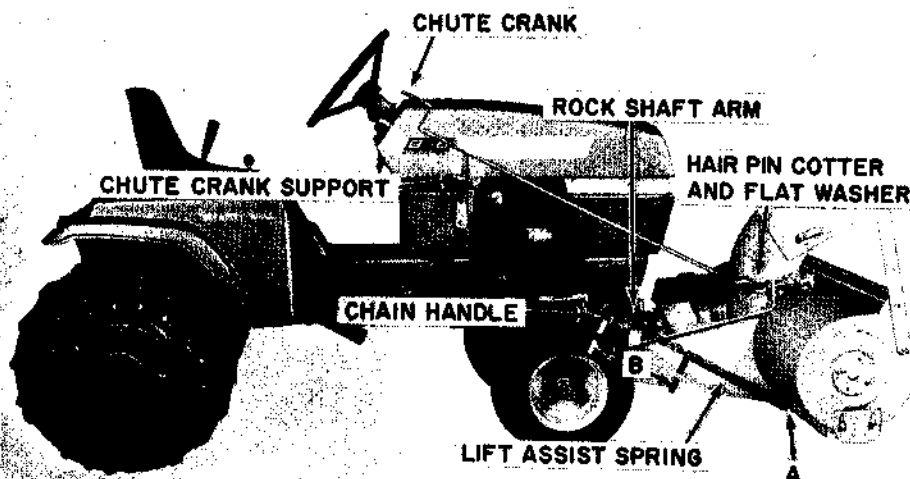
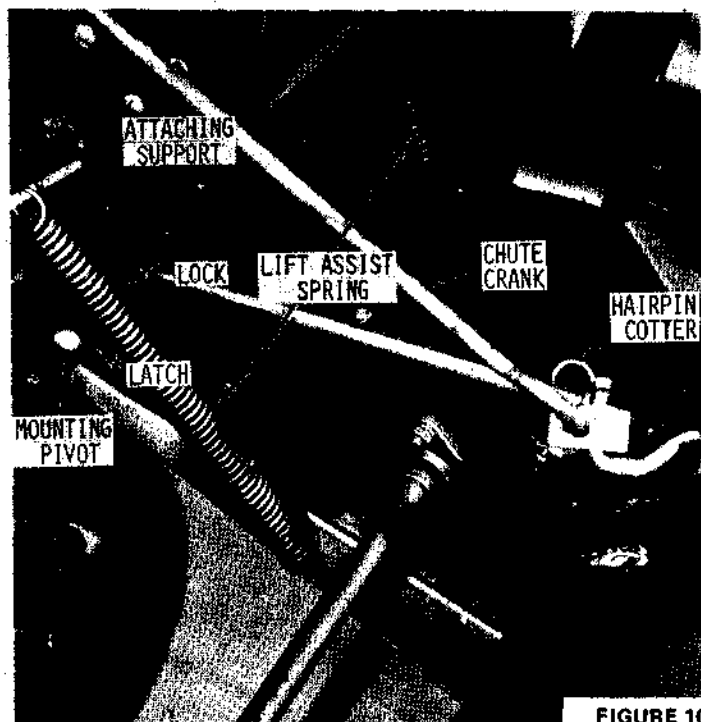

FIGURE 6
FIGURE 10
2. Secure the drift cutters, Figure 6, to the auger housing with $3/8"$ x $3/4"$ capscrews, lockwashers and nuts.
3. Install the skid shoes as shown in Figure 6. Install each shoe at the same height. Secure with $3/8"$ x $1"$ carriage bolts, flat washers, lockwashers and nuts. Place flat washers next to the slots.
4. Insert chute crank through the hole in the chute crank support, (Figure 6) and insert opposite end into universal joint on the snow head, Figure 10. Secure with hairpin cotter.
5. Remove front running board support mounting hardware on the right side of the tractor. Position chute crank support as shown in Figure 6. Secure with $3/8"$ x $1 1/4"$ capscrews, lockwashers and nuts.
1. Place sno-thro mounting, pivots in the tractor saddle brackets and secure with the latches and locks, Figure 10.
3. Attach lift assist springs as shown in Figures 6 and 10. **NOTE:** The springs can be attached to the sno-thro frame in any of three different mounting holes. The front hole provides maximum flotation and easiest lifting of the sno-thro. The rear hole provides
4. Insert chute crank through the hole in the chute crank support. Figure 6, and insert the opposite end through the universal joint on the snow head, Figure 10, and secure with a hair pin cotter.